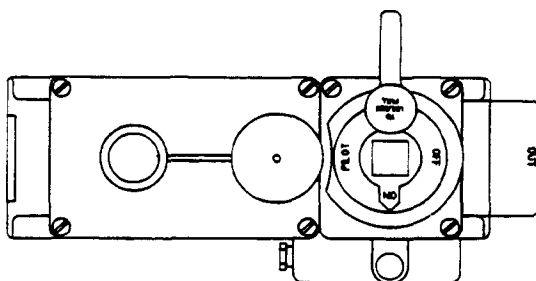

Figure 2
C. Turn safety valve handle to PILOT, depress button, light pilot and hold for 45 seconds or until pilot remains lit. Refer to Figure 2.